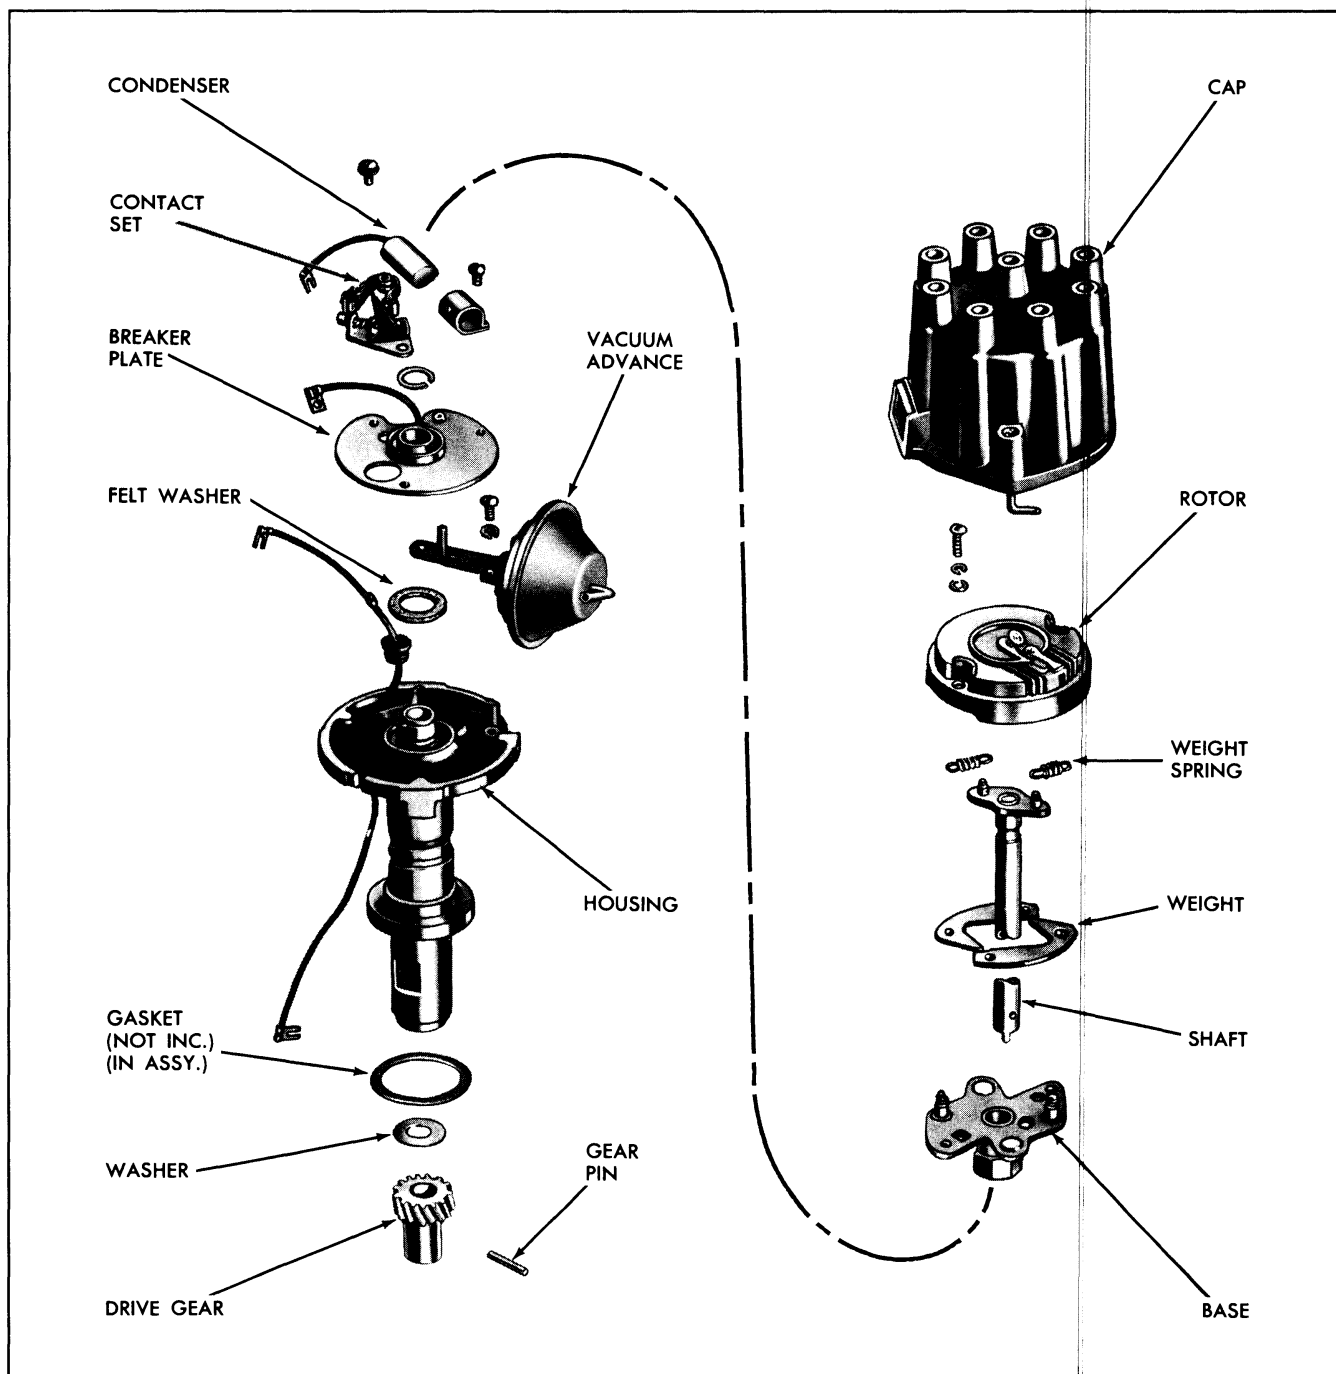

Fig. 11-48 Distributor—Exploded View
1. Remove the rotor by removing the two attaching screws, lock washers, and flat washers (Fig. 11-48).